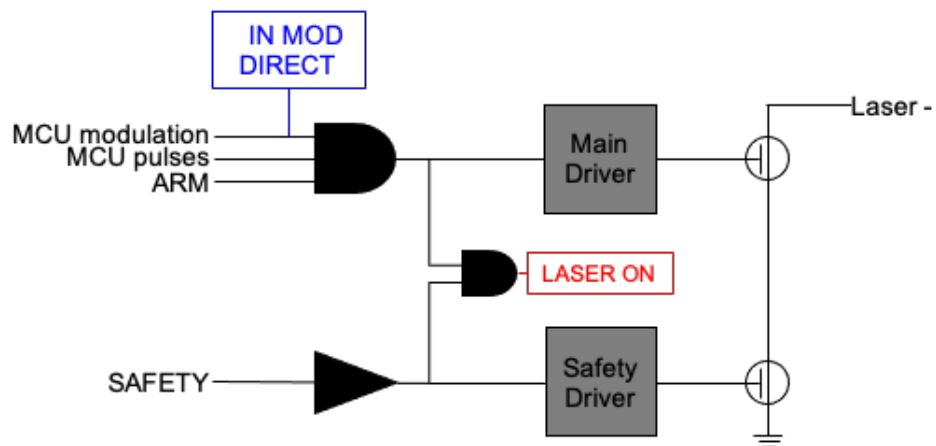

Figure 6.3: Simplified driver connection schematic
- IN_ARM Interlock for the main gate driver. Schematized in Fig. 6.3
- IN_SAFETY Interlock for the safety gate driver. Schematized in Fig. 6.3
The pulse settings defined in the GUI are output from the microcontroller and input to the driver. The driver itself consists of two identical arms, referred to as SAFETY and ARM, both of which must be enabled for laser output. When this is the case, the OUT_LASER_ON pin effectively provides a TTL signal with the modulation input to the transistor drivers. Fig. 6.3 depicts the parallel driver chips, OUT_LASER_ON signal, as well as the optional external modulation input IN_MOD_DIRECT as described in Sec. 7.3 below.